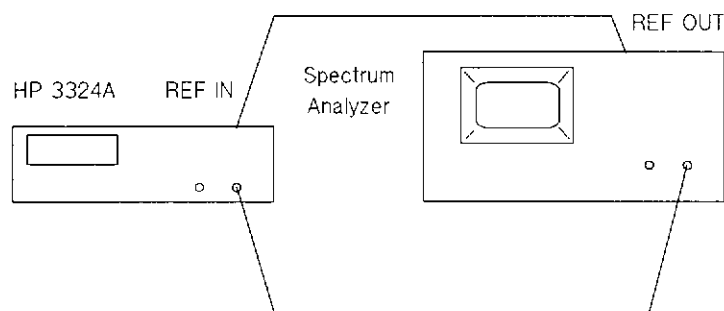

Figure C-2. Mixer Spurious Test Set-Up
1. Connect the HP 3324A signal output to the spectrum analyzer 50 Ω (RF) input and the HP 3324A EXT REF input to the analyzer 10 MHz reference output, as shown in Figure C-2.